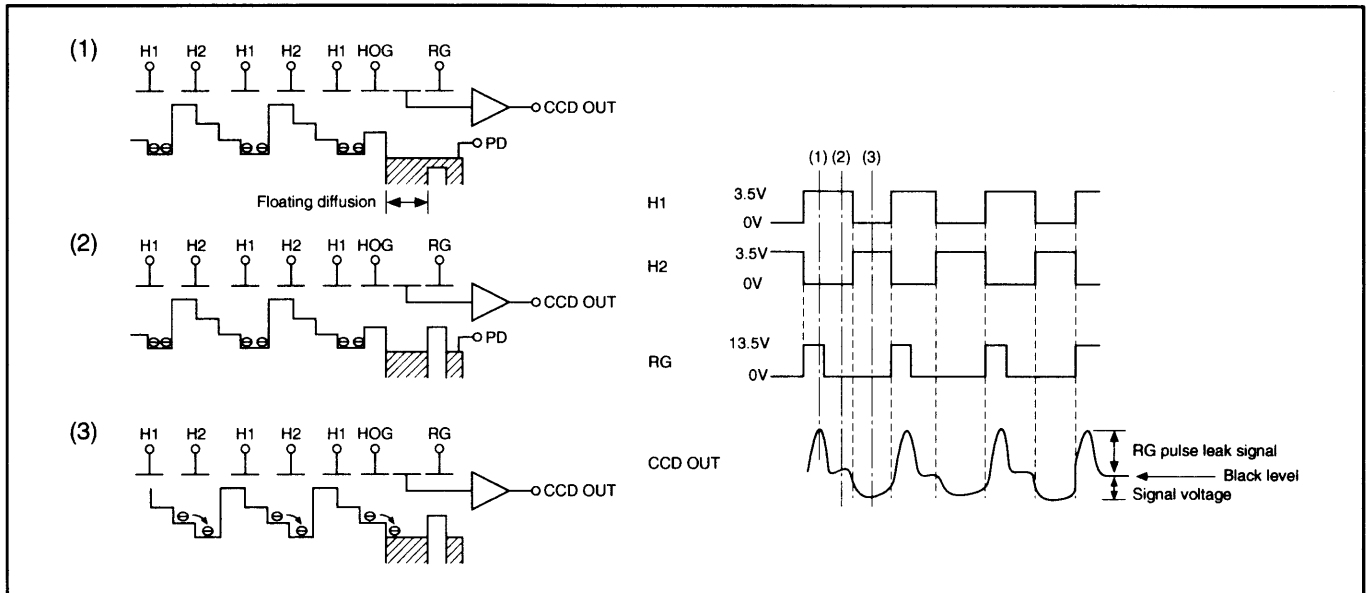

Fig. 1-6. Horizontal Transfer of CCD Imager and Extraction of Signal Voltage
The electric charges sent to the final stage of the horizontal CCD are transferred to the floating diffusion, as shown in Fig. 1-6. RG is turned on by the timing in (1), and the floating diffusion is charged to the potential of PD. The RG is turned off by the timing in (2). In this condition, the floating diffusion is floated at high impedance. The H1 potential becomes shallow by the timing in (3), and the electric charge now moves to the floating diffusion.